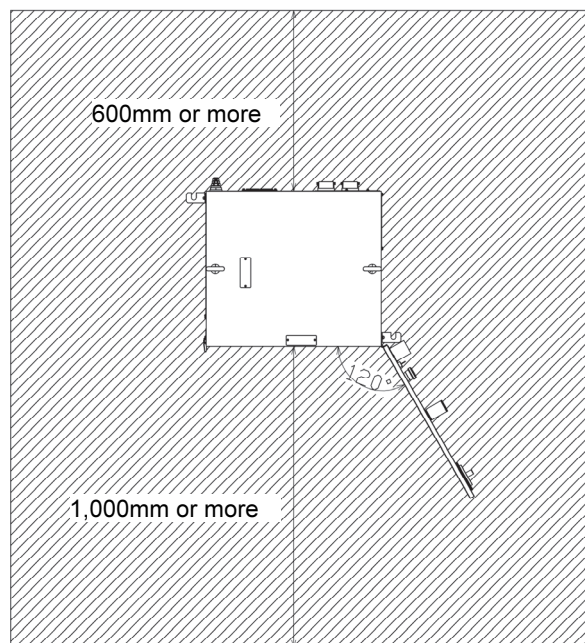

Fig. 2.4.5 Installation of robot controller
(3) To install a robot controller and welding power supply, etc. on a high place (two or more meters in height) such as a frame base, a foothold as shown on the diagonal line space of Fig 2.4.5. is required so that adjustment and maintenance, etc. work can be performed.
(4) Install the controller so that the height from the working floor to the breaker handle is between 0.6 m to 1.9 m.